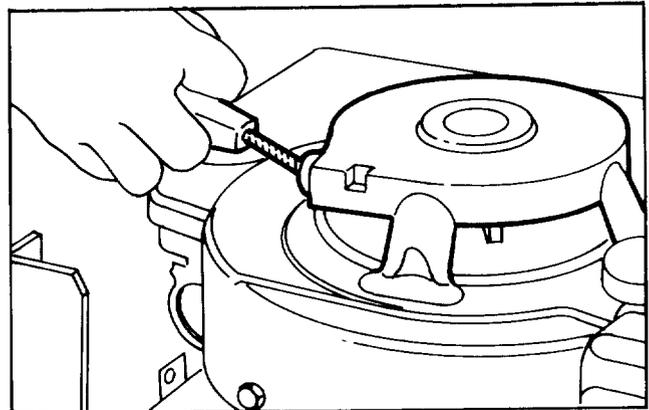

Figure 10
Recoil Starter (Fig. 10) (Recoil Models Only) — Recoil starter must be used in conjunction with ignition switch. After turning ignition key to ON position, pull recoil starter handle to start engine.
2. Move throttle control to CHOKE position, and rotate ignition key to ON. Stand to left side of rider, pull recoil starter handle out until positive engagement results; then pull handle vigorously to start engine (Fig. 10). When the engine starts, immediately move throttle control between FAST and SLOW positions if choke was used for starting. Get onto the rider from the left side and sit on the seat.